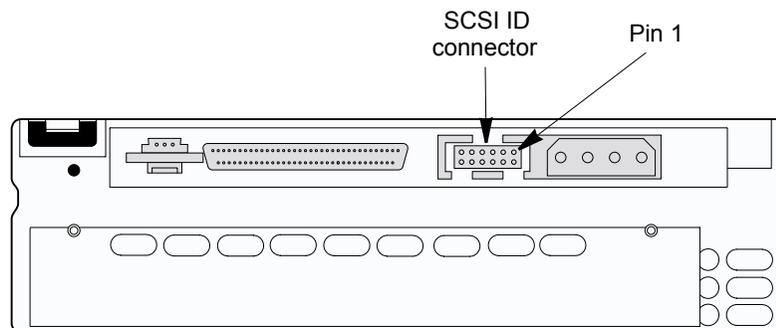

Figure 2-4 SCSI ID jumper block on the back panel of the internal tape drive
2. Use flat-nose pliers to remove and reposition the jumpers on the SCSI ID jumper block, shown in Figure 2-4, to the desired ID. Jumpers are included with the tape drive; if you need additional jumpers, use a 2 mm mini jumper (for example, AMP part number 382575-2).